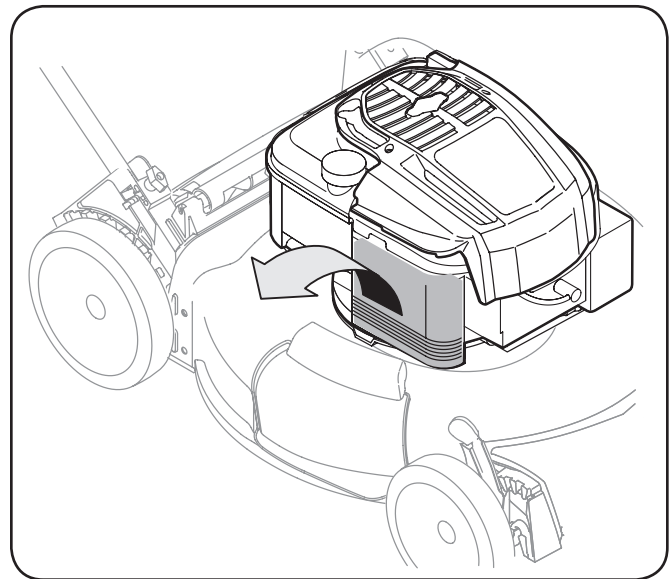

Figure 6-3
2. Open the cover and remove the pre-cleaner and the filter cartridge. See Figure 6-3.